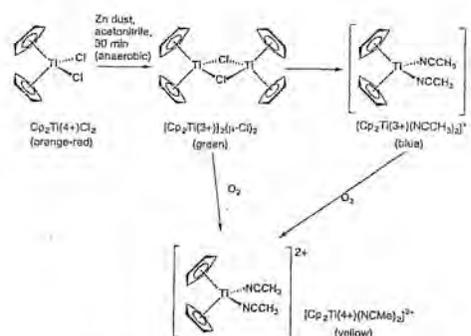

Figure 1. Reaction scheme for synthesis of the colorimetric indicator [TiCp₂(NCCH₃)₂]⁺ and its reaction with dioxygen.
A solution of the reactive Ti(III) metallocene indicator can be easily prepared in situ in a Schlenk flask attached to a Schlenk vacuum line. Dicyclopentadienyltitanium(IV) dichloride (cyclopentadienyl, C₅H₅, hereafter referred to as Cp; available from Aldrich Chemical Co. as *titanocene dichloride*, catalog #23,482-6) is dissolved in deaerated acetonitrile followed by addition of zinc dust.¹ A slow reduction reaction² can be followed visually through a series of color changes. The initially orange-red solution of TiCp₂Cl₂ turns green as the dimer (TiCp₂)₂(μ-Cl)₂ is formed (Fig. 1).³ The appearance of a deep blue solution signals the formation of [TiCp₂(NCCH₃)₂]⁺, a result of facile dimer cleavage in the coordinating solvent acetonitrile (3). When this is exposed to O₂, the deep blue color of [TiCp₂(NCCH₃)₂]⁺ is rapidly bleached to yellow as Ti³⁺ is oxidized back to Ti⁴⁺.